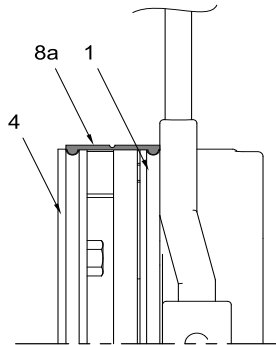

Figure 38 – Brake Seal
- Press the lips of the seal into the grooves in the stator (1) and mounting flange (4) (see Figure 38).